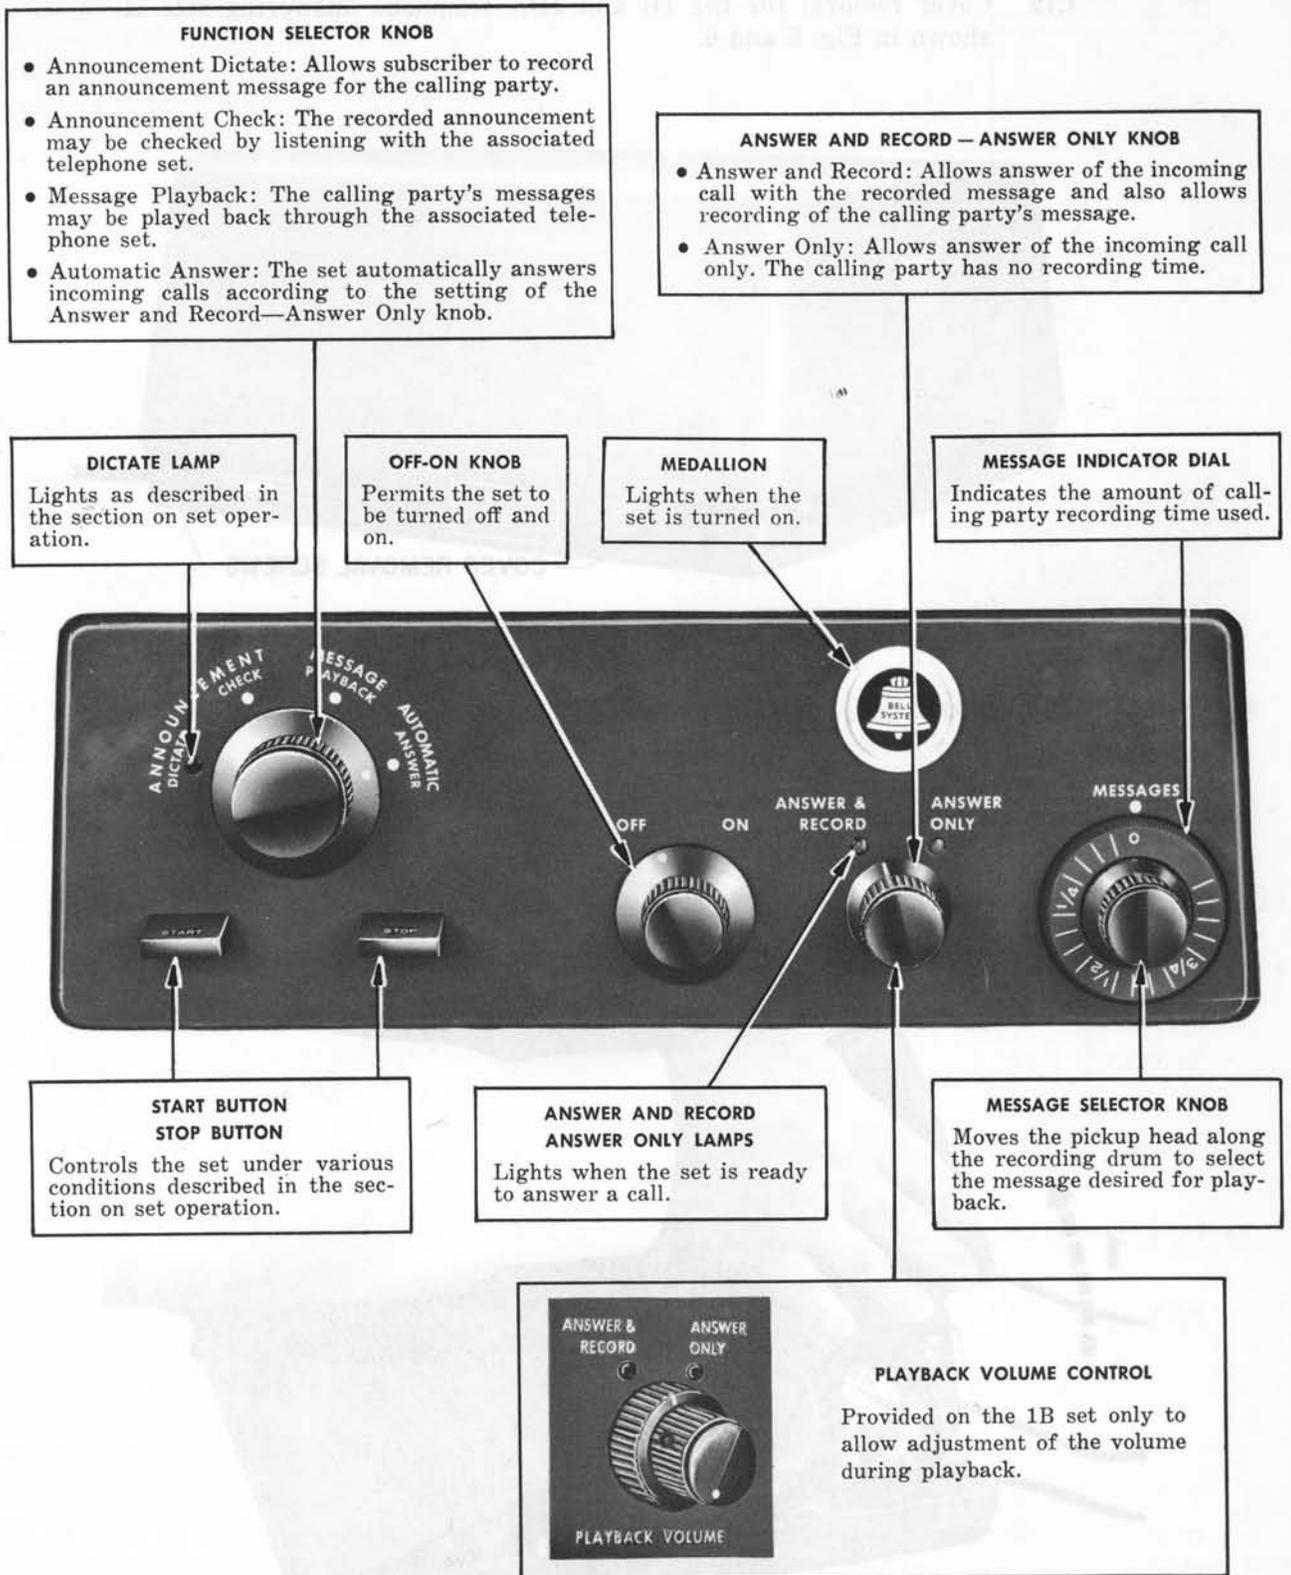

Fig. 4 — 1BA Telephone Answering Set, Front Panel Controls
**1.10** Front panel controls of the 1BA telephone answering set shown in Fig. 4 are as follows: